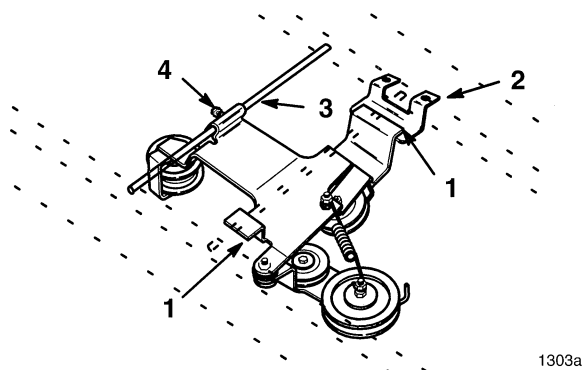

Figure 17
9. Position idler pulley assembly front tabs above brackets and hook onto tractor lift shaft at rear (Fig. 17).
10. Secure with bolt and jam nut at rear hook (Fig. 17).